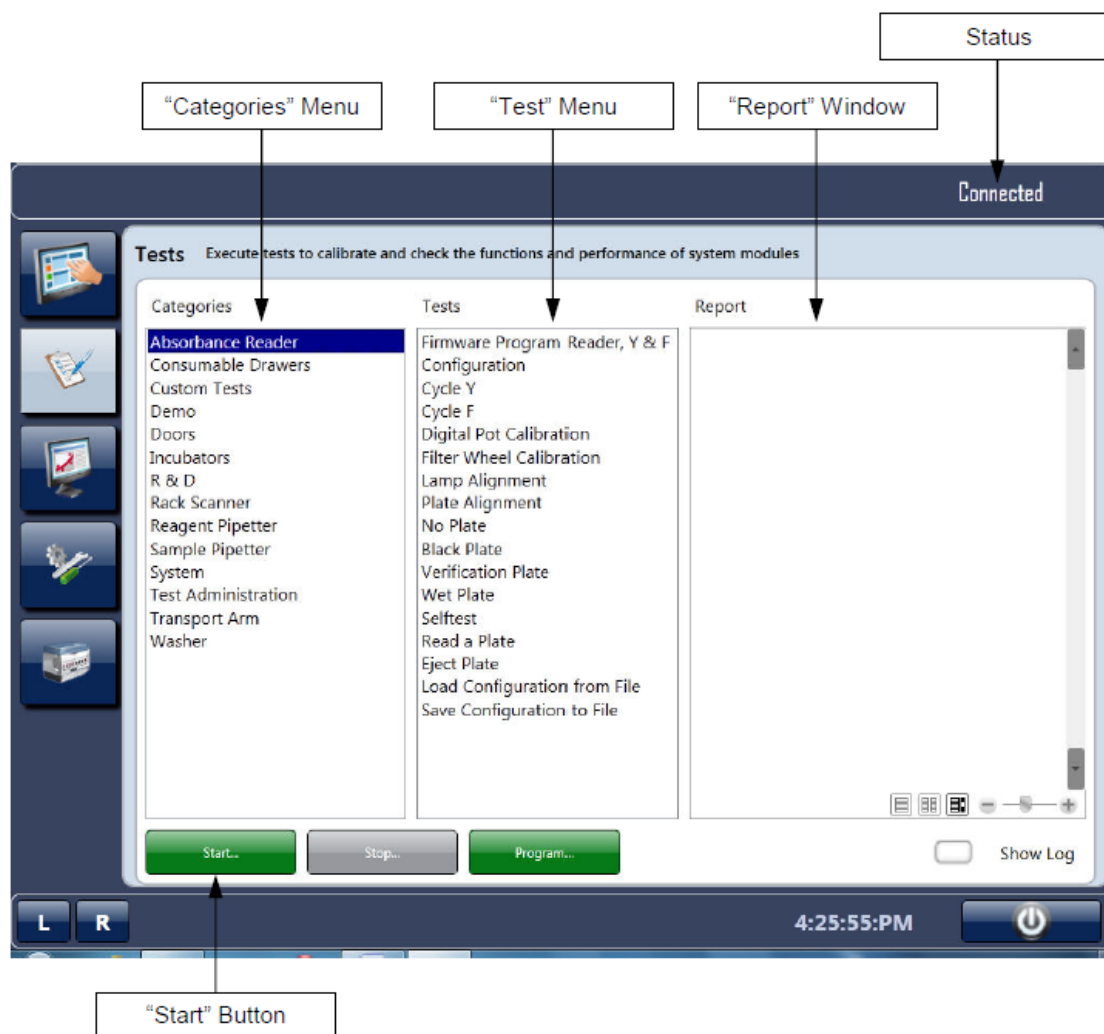

Figure 5-3: The Test Screen
- Home - summary information (Figure 5-3)
9. Press the *Connect* button. The list of connected modules will be presented on the right side of the screen as shown in Figure 5-3.
11. Select *Absorbance Reader* from the Test screen (Figure 5-3), select *Configuration* from the *Test* menu, then press *Start*.